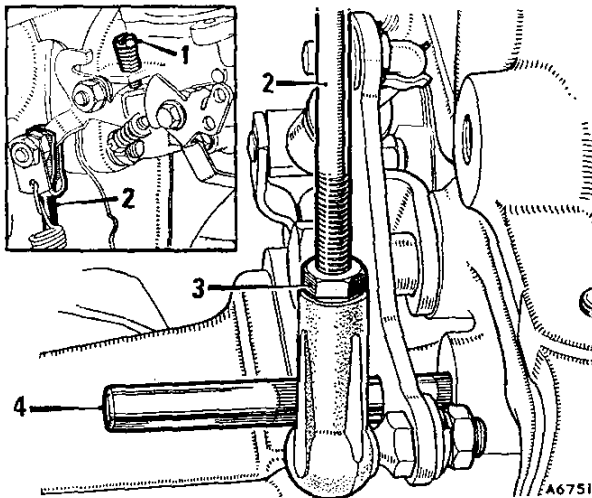

Fig. Fa.3
- (16) Run the engine to its normal working temperature.
- (17) Disconnect the governor control rod at the carburettor.
- (18) With the carburettor correctly tuned, adjust the throttle adjusting screw to give a tachometer reading of 650 r.p.m. at tickover.
- (19) Insert a $\frac{1}{4}$ in. (6.4 mm.) diameter rod through the hole in the governor control rod bell-crank lever and into the hole in the transmission case (Fig. Fa.3).
- (20) Slacken the locknut (3) (Fig. Fa.3) and adjust the length of the rod to suit the carburettor linkage in the tick-over position.
- (21) Reconnect the governor control rod to the carburettor. Tighten the ball joint locknut and remove the checking rod from the bell-crank lever.